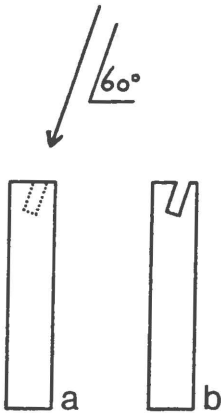

Fig. 4.
1. Initially the front must be sawn in the way shown in figure 4. Take care that the saw-slit is wide enough for the front window glass to fit in it freely.